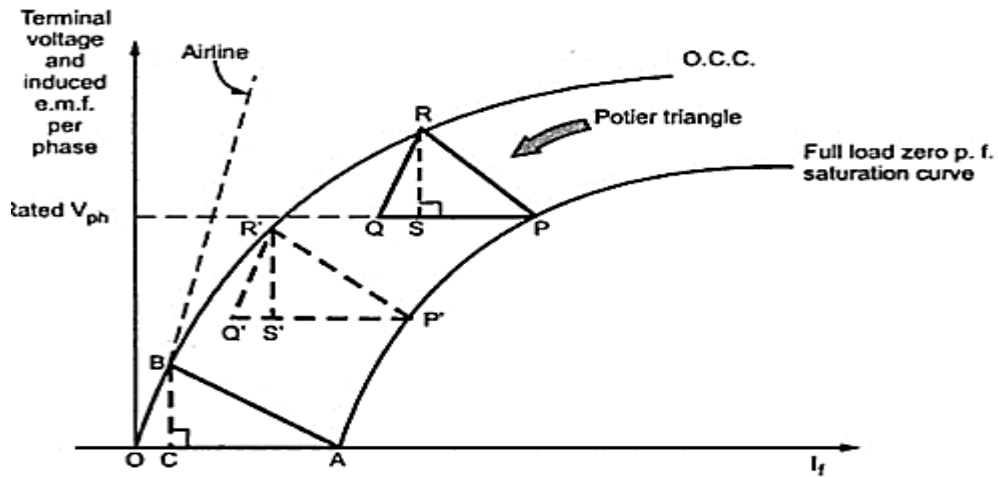

Fig.1: O.C.C and full load ZPF curve characteristics showing Potier Triangle
1. Connect the circuit as shown in fig.1